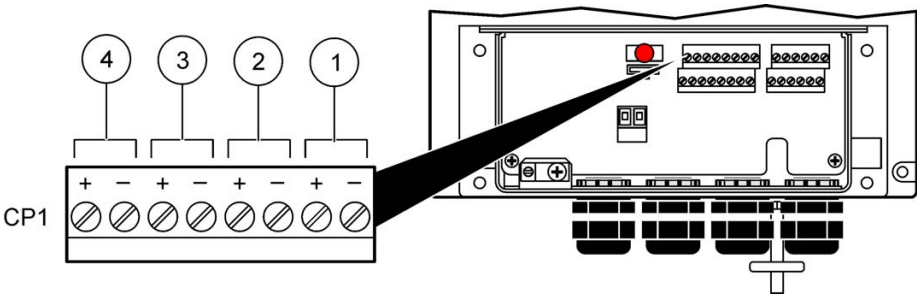

Figure 8 CP1 terminal block connections for 4-20 mA outputs
- 4. Insert the cable(s) through the strain relief fitting or conduit hub near the CP1 terminal block (Figure 8).